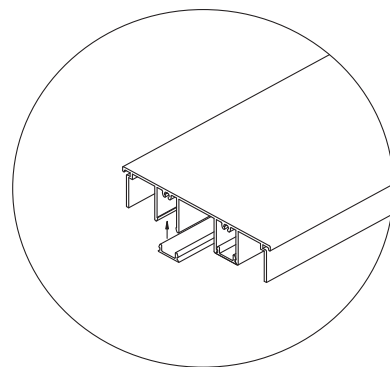

Figure 17
15. Next install the main frame head screw covers and P-hook screw covers. (See Figure 17)